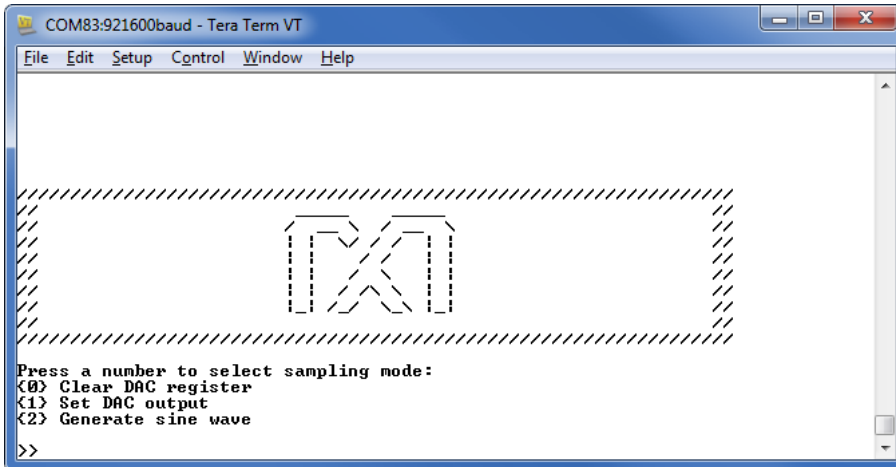

Figure 3. Terminal program main menu.
7. The MAXREFDES60# software displays a menu (**Figure 3**).